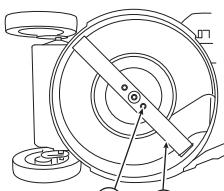

Fig. 40
2. If the blade (S) or its the blade mounting bolts (T) are "worn", "broken" or "deformed", exchange with new one(s) specified by us.
3. Confirm that the blade mounting bolts (T) are tightened by the specified torque. (See Fig. 40)
2. Fully tighten the blade mounting bolts (T) with hand.
4. Confirm that the blade mounting bolts (T) are tightened by the specified torque. (See Fig. 40)